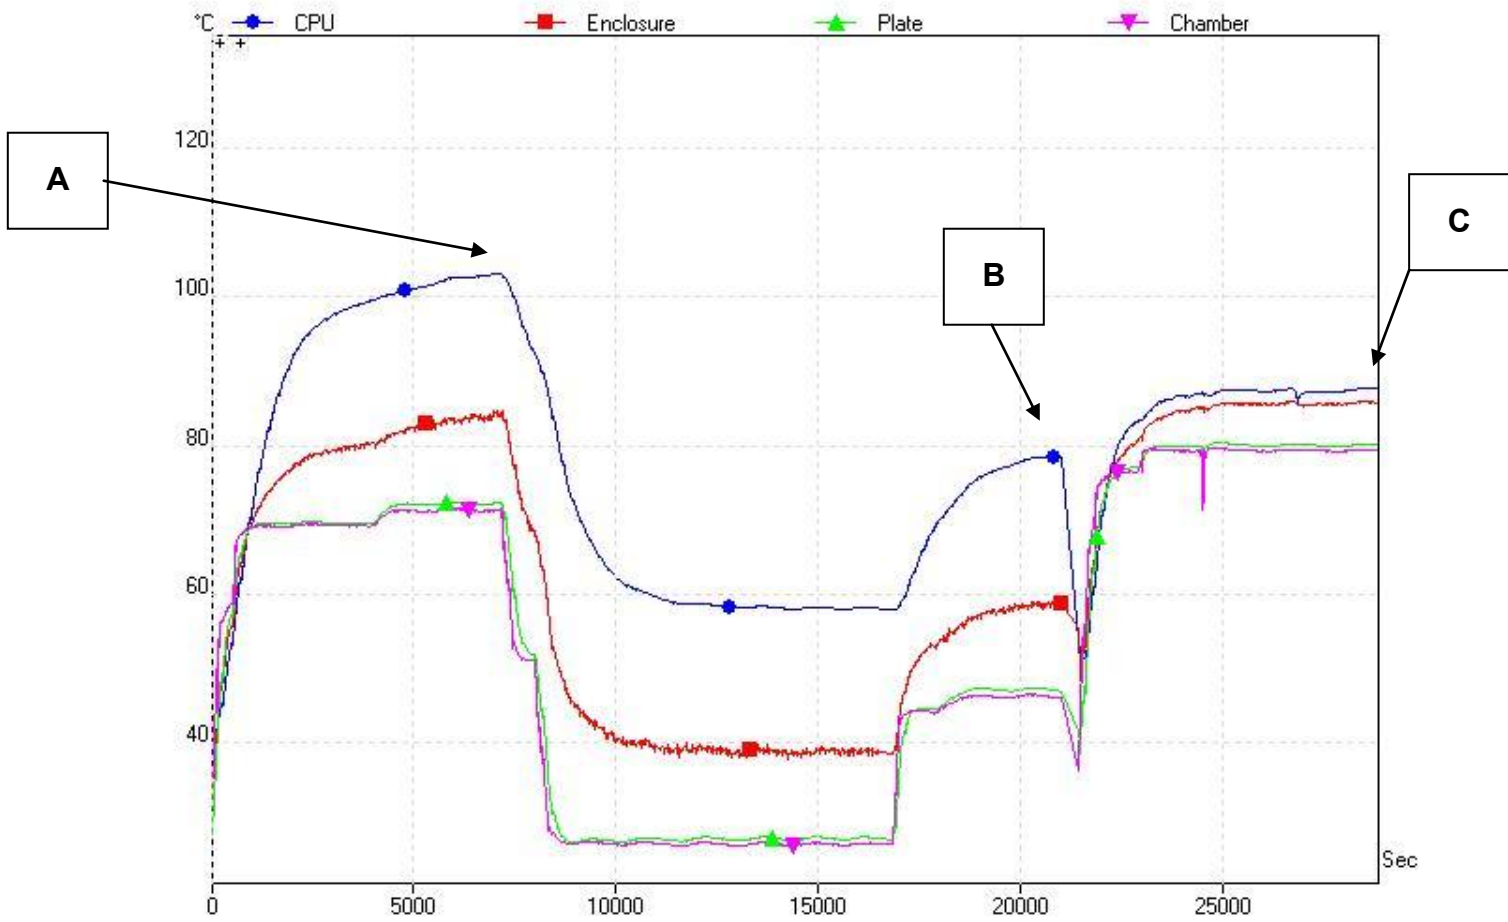

Figure 1
- The purpose was to find out how hot the CPU got without dissipation and inside a sealed box, as shown in Figure 1 from time $t=0$ to point B. This simulates the operation of a conventional heat sink in a sealed box without air flow.
- The assembly has been set on the plate with two watt resistors inside the box, as shown in Figure 1 points B to C. Aurora's heatspreader is resting on the bottom plate of Pandora, which in turn is resting on the external aluminum plate. No thermal paste is used between metal surfaces for this test.